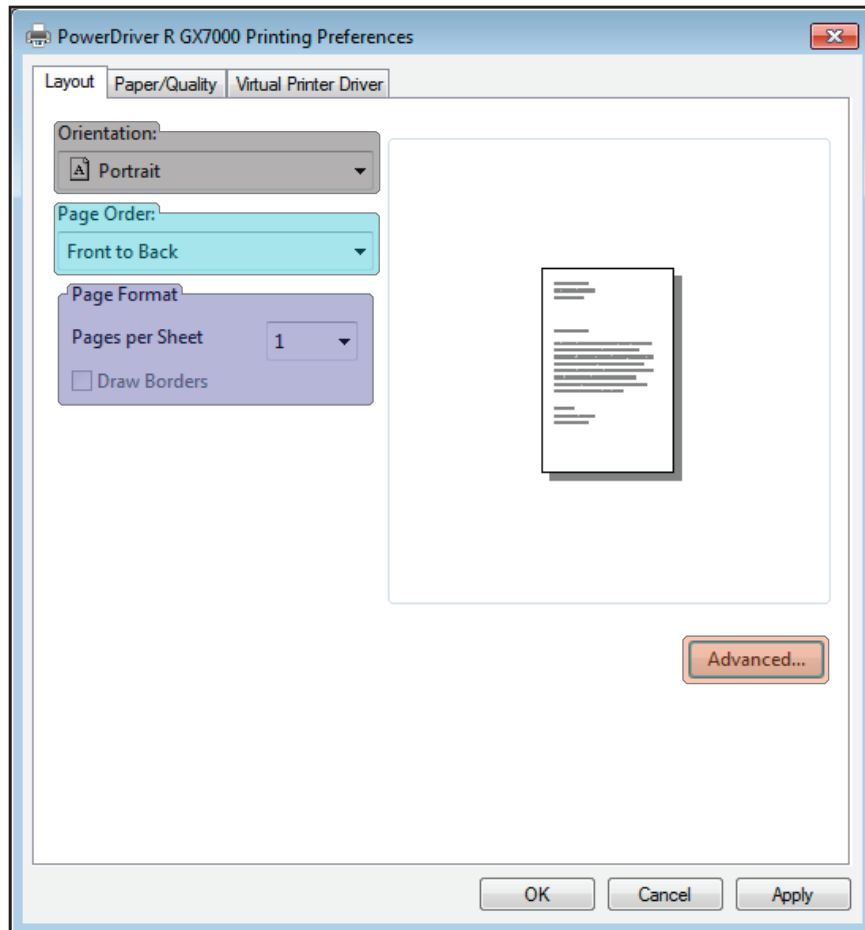

FIGURE 4
- Head Cleaning** – Click here to initiate the head cleaning process. This feature is necessary when nozzles are missing thus causing color shift or “banding” in your printed images. You should print a nozzle check to confirm missing nozzles before performing a head cleaning. Repeat the Head Cleaning until a complete nozzle check has been achieved. Cartridge users should only perform two (2) head cleanings, while users of bulk ink systems can try up to five (5). Contact technical support if you fail to achieve a good / complete nozzle check after the recommended amount of cleanings.
- 4.) At the top of the PowerDriver-R GX7000 Printing Preference window, click the **Layout** tab. Here you will find four different **SECTIONS** to utilize: (see *FIGURE 4*).